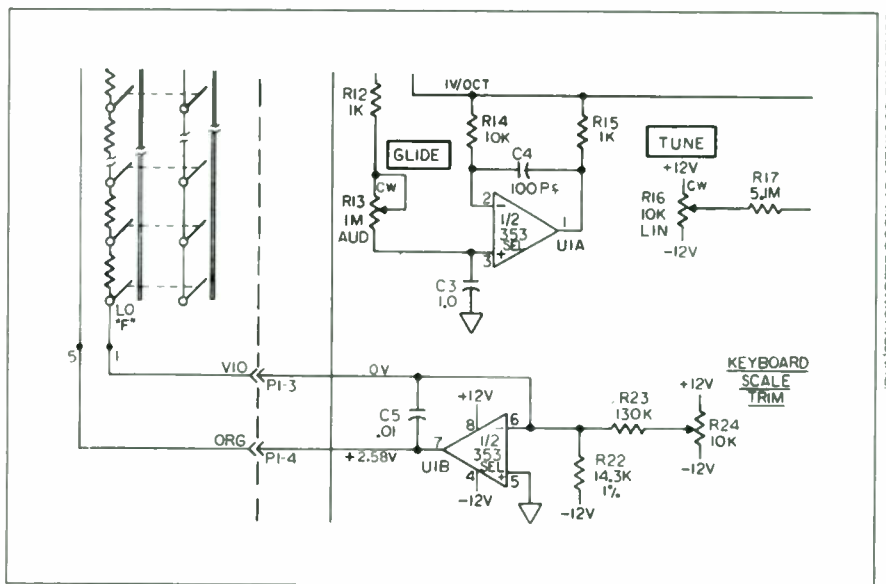

Fig. 3 Moog Rogue keyboard sample/hold circuit
A. These symptoms point to a thermally defective sample/hold capacitor, or the op amp buffer that follows it. Fig. 3 shows the relevant portion of the Rogue schematic (this design is typical of analog synths in general); C3 and U1A are the cap and IC in question. To repair the unit, the appropriate PC board must be removed (refer to the service manual), and the affected components desoldered and replaced. The keyboard scale adjustment may have to re-calibrated after the repair, but often this is not necessary.